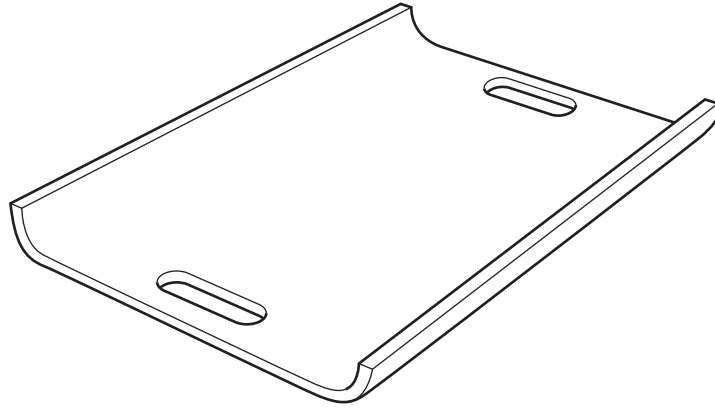

Fig. 6
- 5 Fig. 6 shows a design for a tray to be used to carry cups, saucers and plates. The tray is to be made from sheet plastic with the aid of a male and a female former.